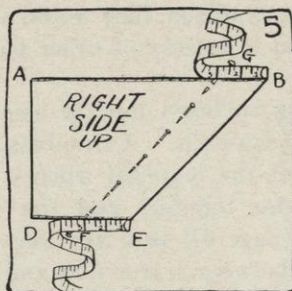

FIG. 5.
- (1) Measure from *E* to *F*, and then from *B* to *G* (see Figure 5). These measurements must be exactly alike.